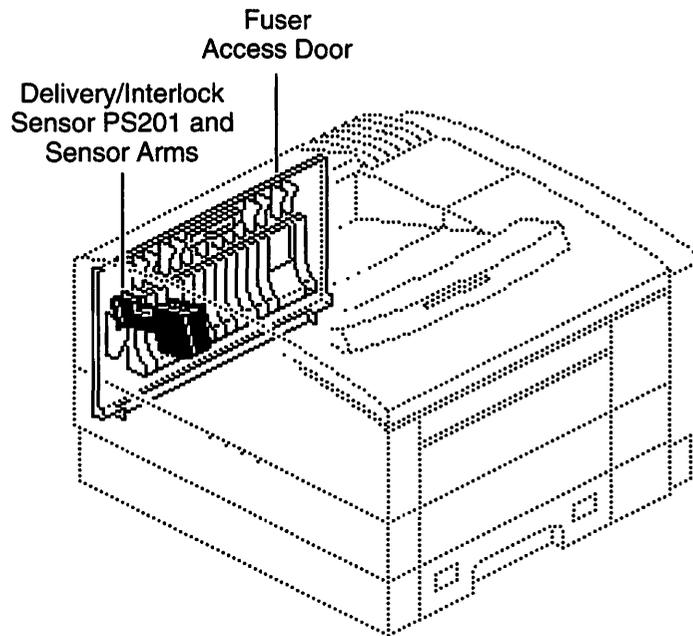

Figure 1-13
- The delivery/interlock sensor PS201 and sensor arms (see Figure 1-13) detects when the printed page exits the fuser assembly. If the page fails to clear the delivery/interlock sensor arm within the necessary time, the sensor detects that a paper jam has occurred. The delivery/interlock sensor also cuts off power when the fuser access door is opened.
- The fuser access door (see Figure 1-13) allows access to and removal of the fuser assembly.